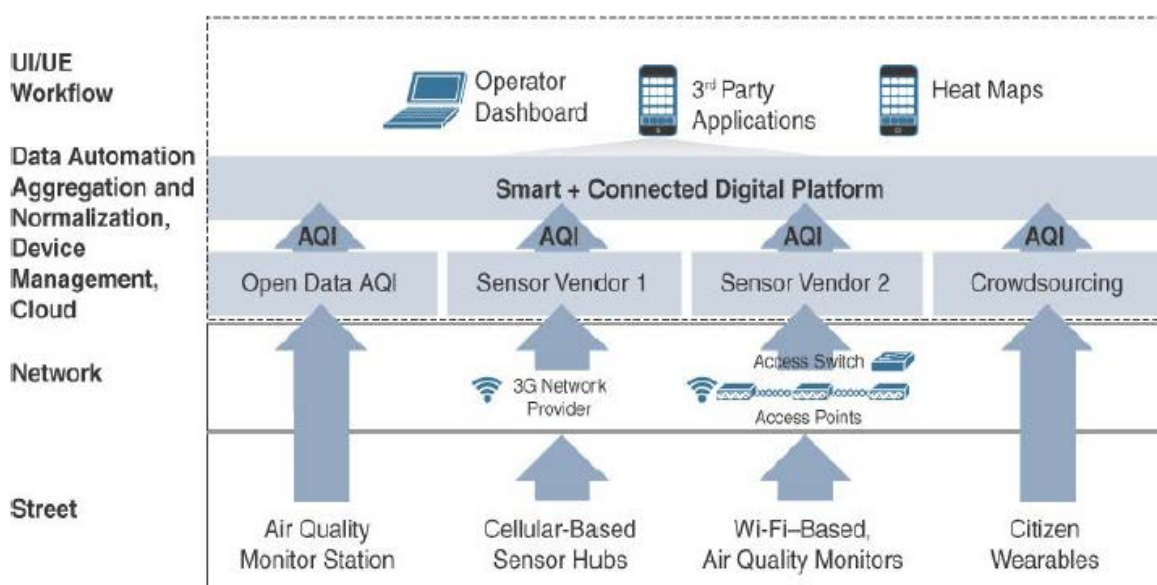

Figure 5.20 Connected Environment Architecture
- Figure 5.20 shows an architecture in which all connected environment elements overlay on the generalized four-layer smart city IoT architecture.
- As shown in Figure 5.20 , at the street layer there are a variety of multivendor sensor offerings, using a variety of communication protocols.
- In addition to all the air quality sensor and wearable data, the data center layer or application layer represented on the left side of Figure 5.20 also receives the open data from existing weather stations as an additional data input.